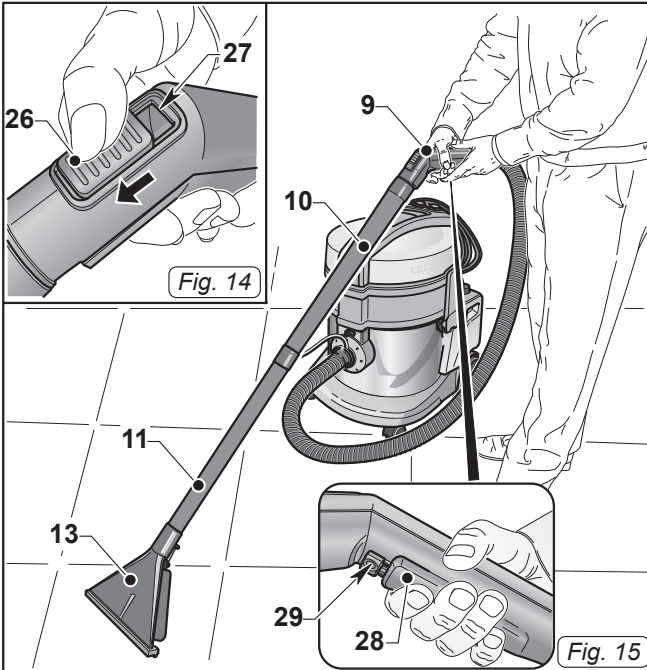

Fig. 15
- To wash floors or carpets it is necessary to mount the hose with ergonomic handle (9 Fig. 15), the rigid extensions (10 and 11 Fig. 15) and the floor nozzle (13 Fig. 15), if present.
- Press the switch (28 Fig. 15) to dispense the detergent, release the button to stop dispensing.
The switch (28 Fig. 15) can be blocked in the pushed position (continuous detergent dispensing) by moving the slide (29 Fig. 15) towards the switch (28 Fig. 15).
When the slide (29 Fig. 15) is moved back to its original position the switch is released and detergent dispensing stops.